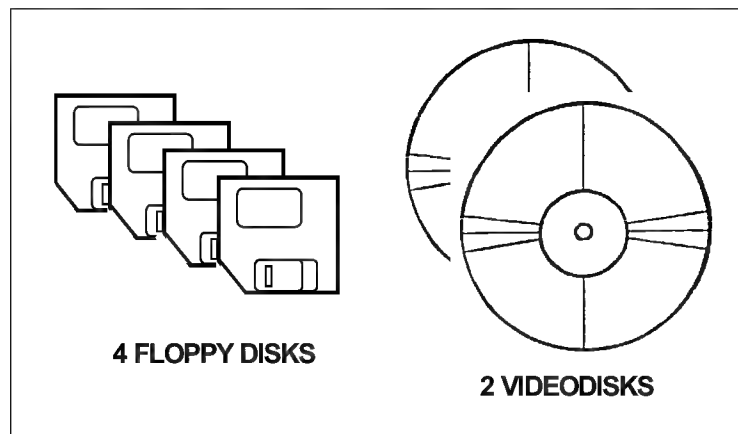

Figure B-4. DGT media.
d. **Media.** Each DGT comes with its own set of four floppy disks (3.5 inch) and two videodisks (12 inch) (Figure B-4).
- (1) **Floppy Disks.** These are standard 3.5-inch floppy disks.
- (2) **Videodisks.** Two 12-inch videodisks store the DGT's audiovisuals. Each is numbered and color-labeled like one of the two mission data disks. Each videodisk comes in a protective jacket.